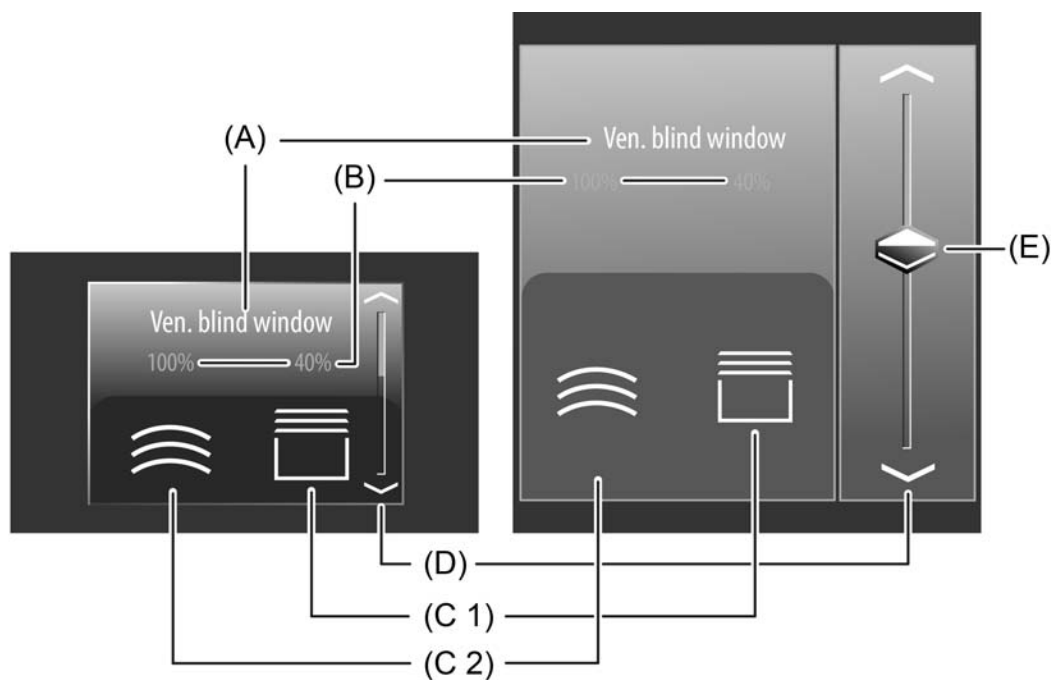

Figure 37: Example of an operating and display element of the channel function "Venetian blind/shutter (position)" and the "Venetian blind" shading method
In the selection operation, a slider (E) is also available in addition to the sensor surfaces \wedge / \vee or \langle / \rangle for positioning in the end positions or for value adjustment (figure 37). It is possible to specify positions for slat or blind/shutter heights directly with graphic support using the slider via the status icon depending on the selection. For this purpose, the slider can be set by finger pressure or continuously moved. To set the slider, you must touch the slider area at the required position with your finger. The slider then jumps immediately to the required position. At the same time, the device transmits the position value specified thus as a setting to the bus. Alternatively, you can move the slider continuously in the slider area with your finger. During the movement of the slider, the device transmits values according to the set value transmitter level in the ETS time-controlled and gradually. As a result, the slat or blind/shutter position of the activated system already changes during the slider adjustment, for example, whereby in the ideal case the operator immediately receives a visual feedback on the drive movement and position. The time that must elapse before the device outputs a new position level during an adjustment is defined in the ETS by the parameter "Time between two value telegrams". Consequently, the configured time of the value adjustment and the value transmitter level affect the control speed of the slider.
The display area contains different display elements (figure 37) that are influenced by ETS parameters. A name can be assigned to each KNX channel in the ETS (A). This text name is centred in the display element for display whereby controllable KNX functions are identified for the user (e.g. "Venetian blind window"). In addition, a status value (B) can be displayed below the name, which displays position values in plain text ("0...100 %") depending on the object value of the position feedback of the Venetian blind or shutter actuator addressed. After a device reset, the display shows "---%" until a feedback object value of the status text is received.